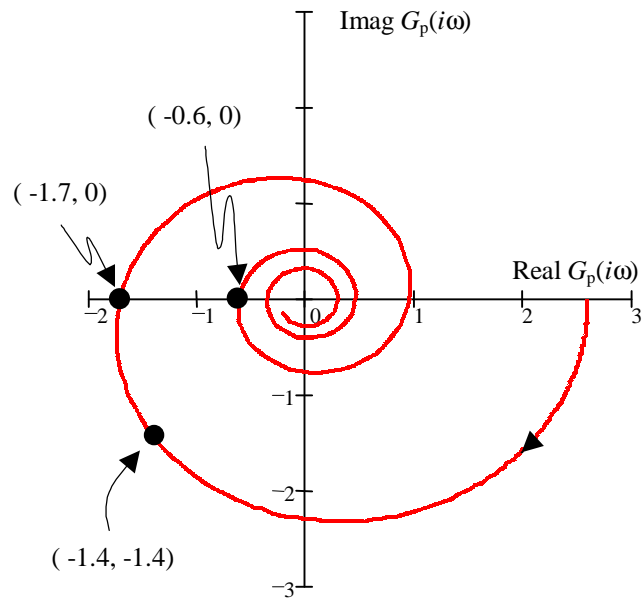

Figure 4
3. (20 pts) Obtain the transfer functions given in Table 1 that matches the Bode plots given as cases 1 to 4 that are shown in Figure 4.
4. Consider the Nyquist plot for a process, $G_p(s)$, given in Figure 4.